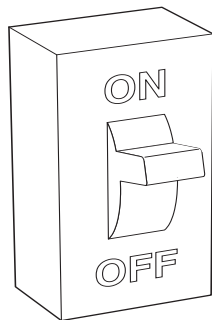

Fig. 14 – Turn on Electrical Supply
- Turn ON the electrical supply to the furnace and wait one minute (see Fig. 14).